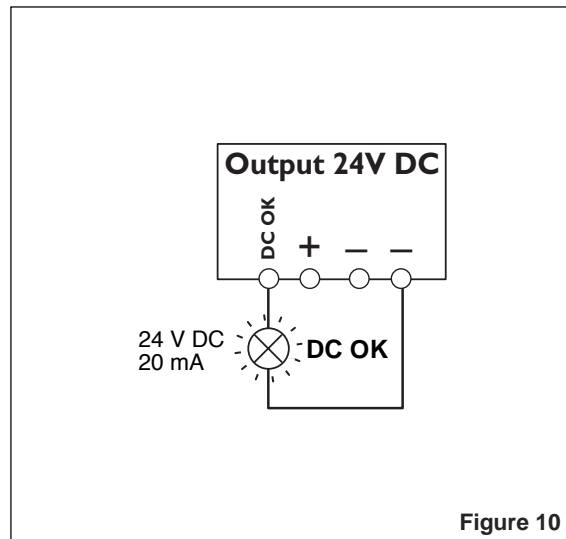

Figure 10
Active Signal Output (③, Figure 10)